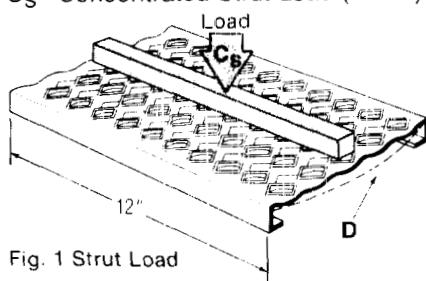
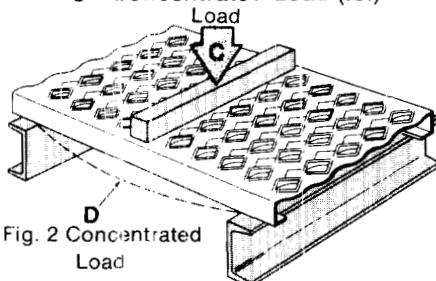

Fig. 1 Strut Load
Fig. 2 Concentrated Load
The first consideration is transverse bending in the grating surface, which is referred to as "strut flexure." This occurs when the grating is loaded with either a uniform load or a mid-width concentrated load, and the "struts" (grating surface) deflect relative to the side channels. To determine the allowable strut loads, samples of each grating material and thickness were tested for each plank width. (See Fig. 1, page 16 and 17.) The data resulting from these tests was used to prepare "strut loading" tables, which give allowable loads and deflections considering strut flexure only. These allowable strut loads, along with the results of additional tests performed on 8- and 10-Diamond grating, have been incorporated in the Product Selection/Design Tables on pages 18 thru 29.
Values indicated in the rows labeled "C" are the lowest of the (1) maximum allowable concentrated load considering channel flexure (Fig. 2), with both channels effective, and (2) the maximum allowable strut load ( $C_s$ ) for a 1-ft. long sample (Fig. 1).